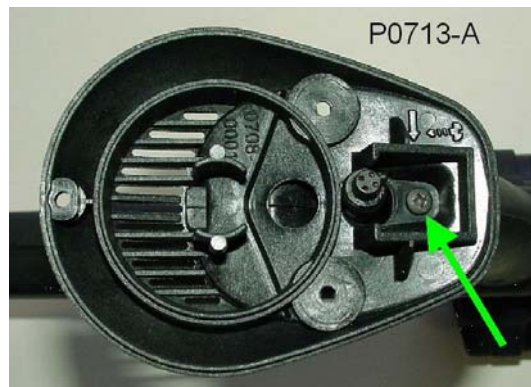

Figure 25: Lower Section of Speaker Pod Showing Unique Screw (Part 4)
- Remove the screw (Part 4) (Figure 25) which secures the lower half of the speaker pod to the handle. The nut for this screw sits in a recess between the two handle halves. This screw is a unique screw and cannot be used on any other part of the detector.